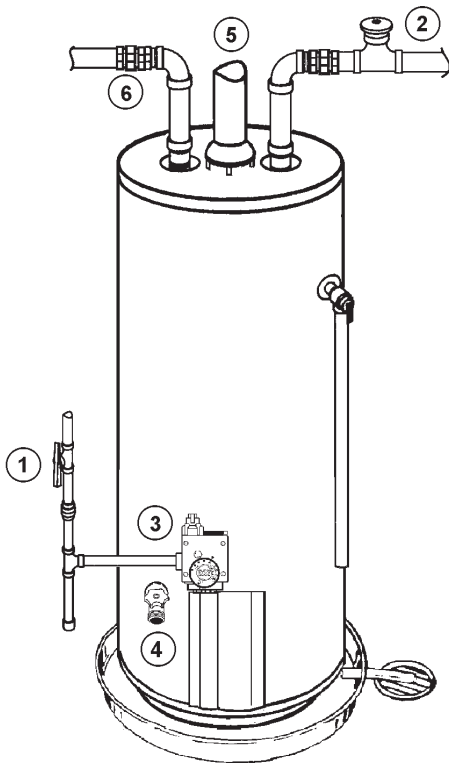

FIGURE 1.
If the main gas line Shut-off valve serving all gas appliances is used, also shut "OFF" the gas at each appliance. Leave all gas appliances shut "OFF" until the water heater installation is completed, see Figures 1 and 2.
2. Turn "OFF" the water supply to the water heater at the water shut-off valve or water meter. Some installations require that the water be turned off to the entire house, see Figures 1 and 3.
4. Attach a hose to the water heater drain valve and put the other end in a floor drain or outdoors. Open the water heater drain valve. Open a nearby hot water faucet which will relieve pressure in the water heater and speed draining. The water passing out of the drain valve may be extremely hot. To avoid being scalded, make sure all connections are tight and that the water flow is directed away from any person, see Figures 1 and 4.